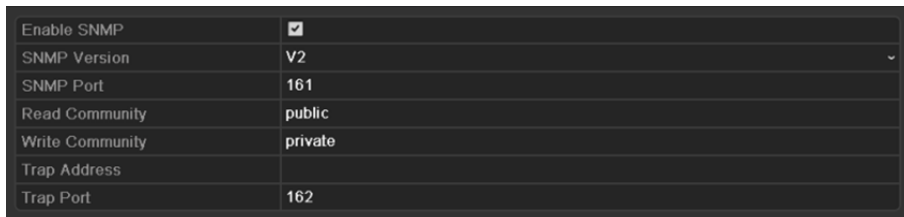

Figure 11-12 SNMP Settings Interface
Step 2 Select the **SNMP** tab to enter the SNMP Settings interface, as shown in Figure 11-12.